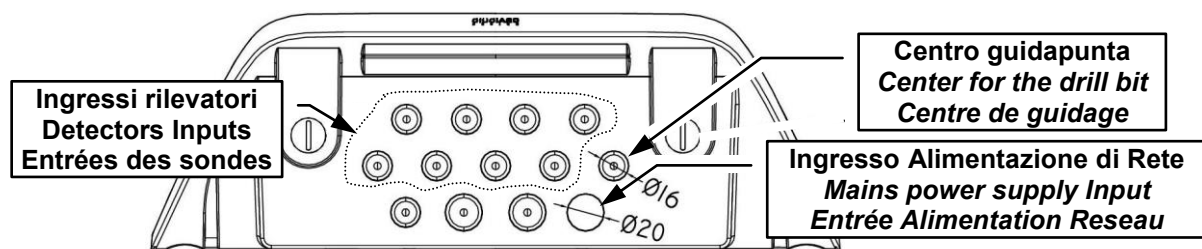
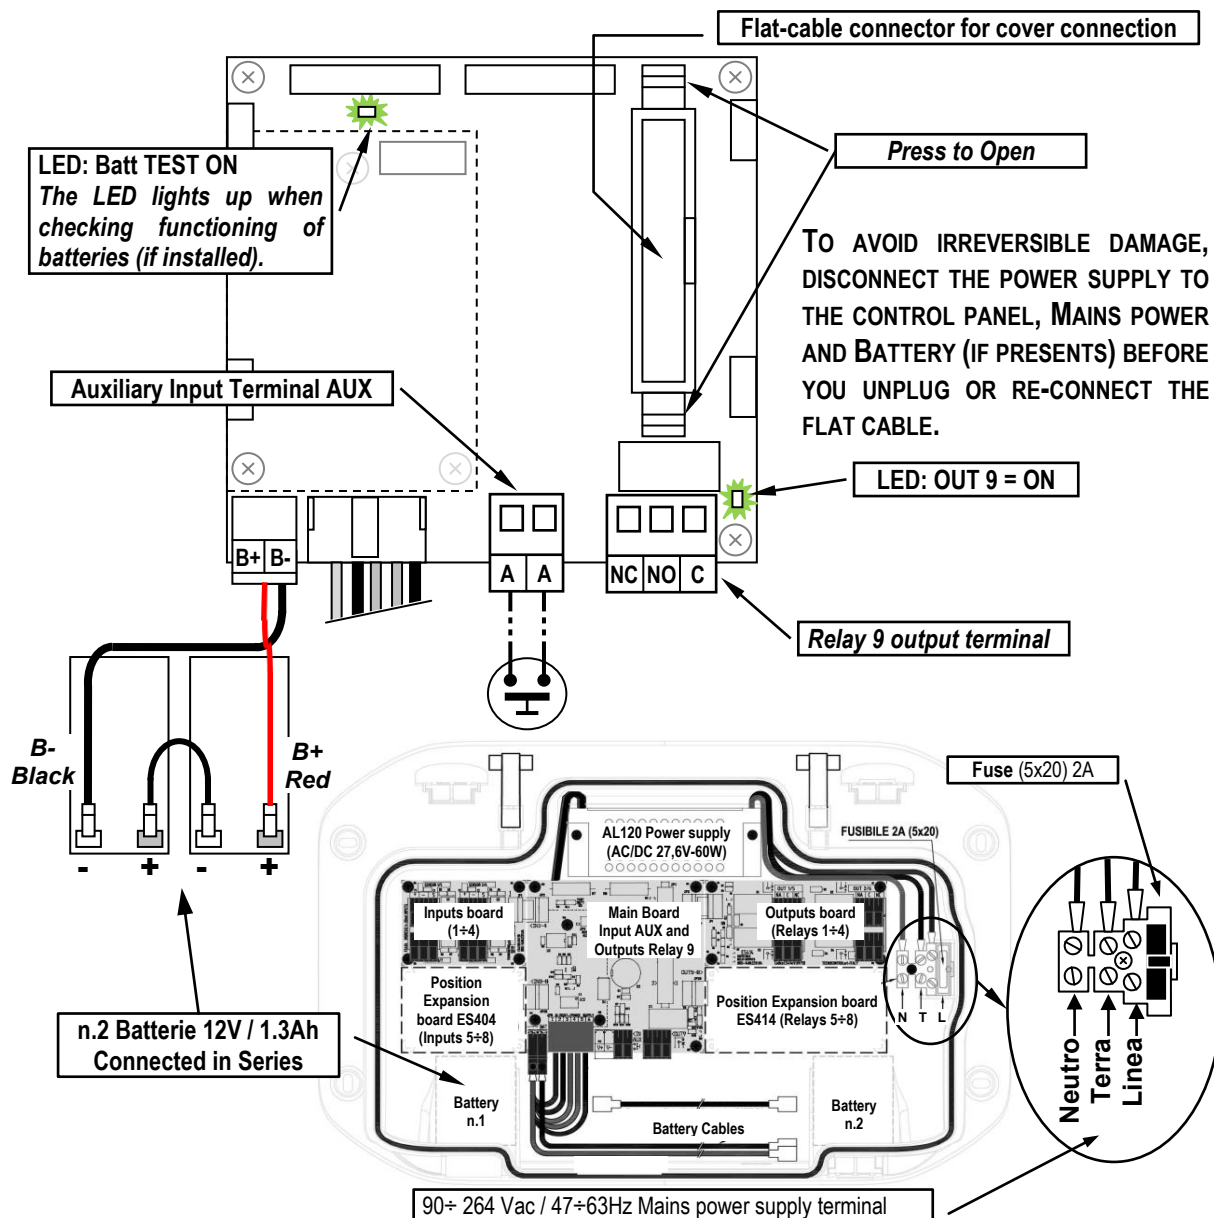

Fig.4 – Inputs for cable glands
Fig 5 – CE408P Wiring diagram for Power, Batteries, AUX input and relay output No.9
The details of the connections to the mains, the two batteries, the AUX input and relay output R9 are illustrated in Figure 4. While the details of the connections to the sensors and the other outputs are illustrated in Figure 5.
**BATTERIES:** Inside the housing, it can also accommodate **two 12V/1.3Ah Lead batteries** connected in series (Fig.5) to assure the system powering in case of mains blackout.
**The connection to the internal outputs (relays 1 to 9)** should be performed on the outputs board, mounted in the base, on the right. *The relay output no.9 is located on the central board, see Figure 5.* The relays nominal load is **250 VAC - 2 A or 30 VDC – 2 A (resistive load)**.